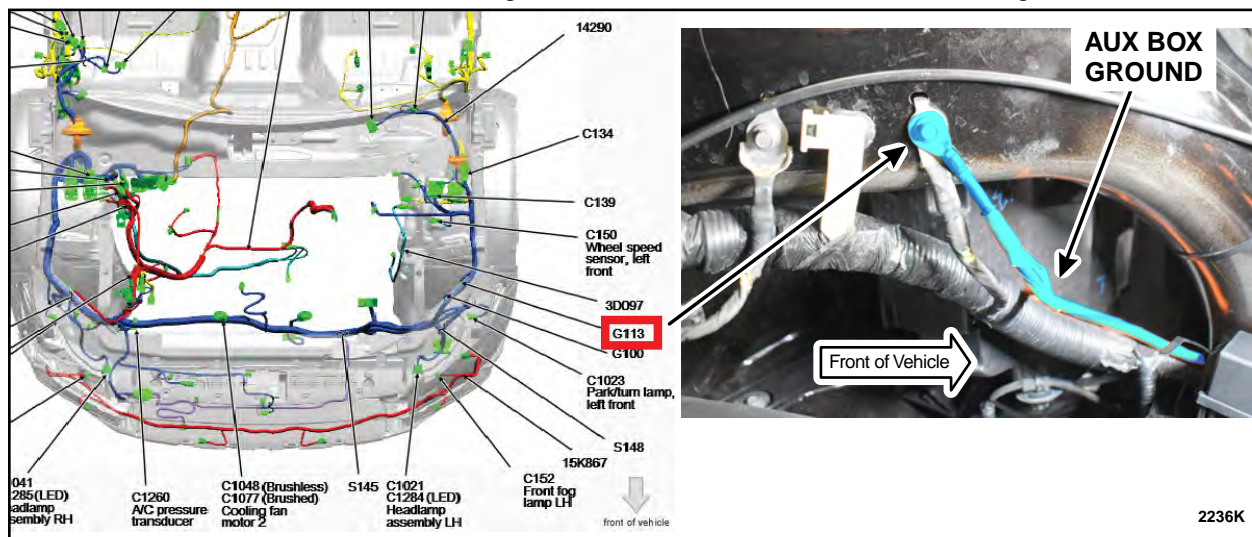

FIGURE 16
19. Install aux box ground on top of existing ground (Ground #113). Torque 9.0+/-1.4 N-m. See Figure 16.